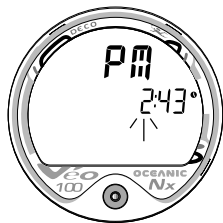

Fig. 23 - SET TIME
- After having set and accepted Hour Format, the Set Time screen appears with the Hour Set Point flashing (Fig. 23).